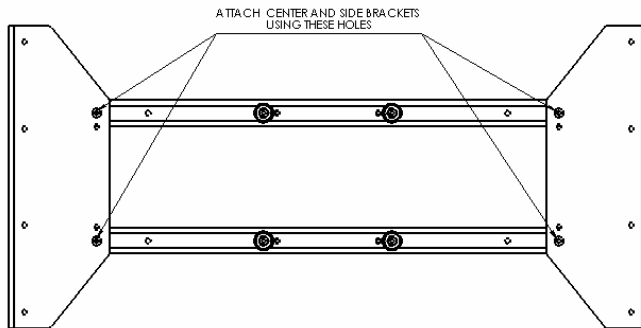
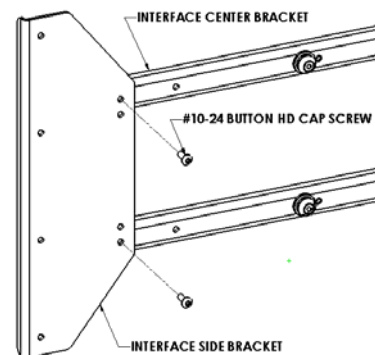

Figure 4
Figure 5
2. Attach center brackets to side brackets using #10-24 screws, hex key provided. (see Figure 4 & Figure 5).